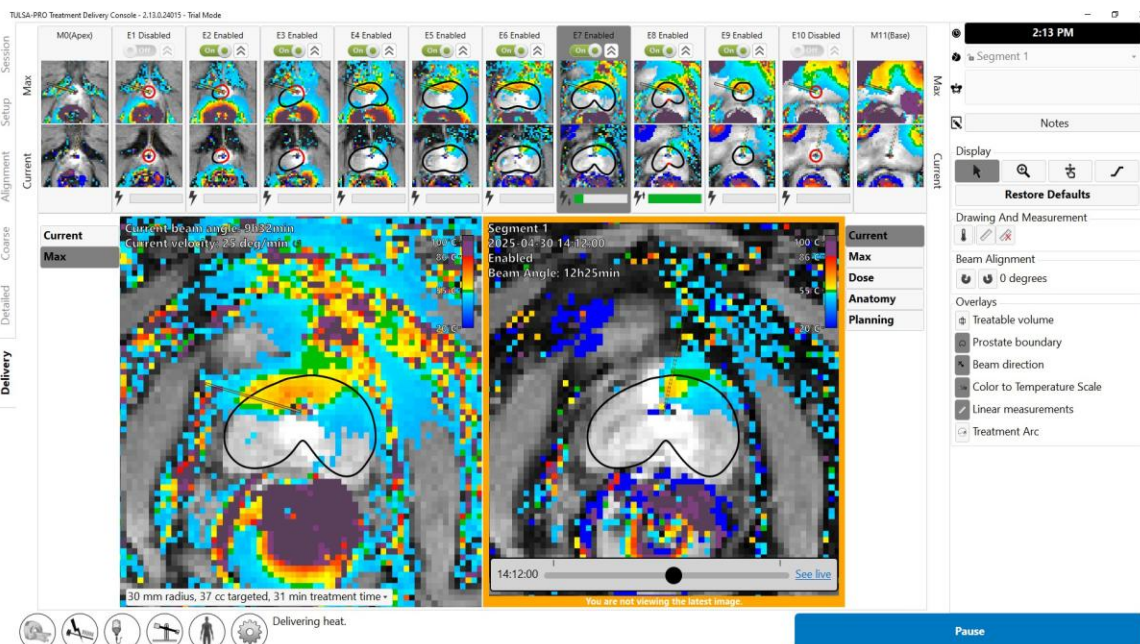

Figure 58: “You are not viewing the latest image” message below history slider
**NOTE:** When viewing images from previous timepoints, a frame around the right viewport shows that the latest images are not being viewed (*Figure 58*). A dashed line shows where the beam angle was at the previous timepoint. To return to the current timepoint, click **See live** or drag the History Slider until the framed message disappears.